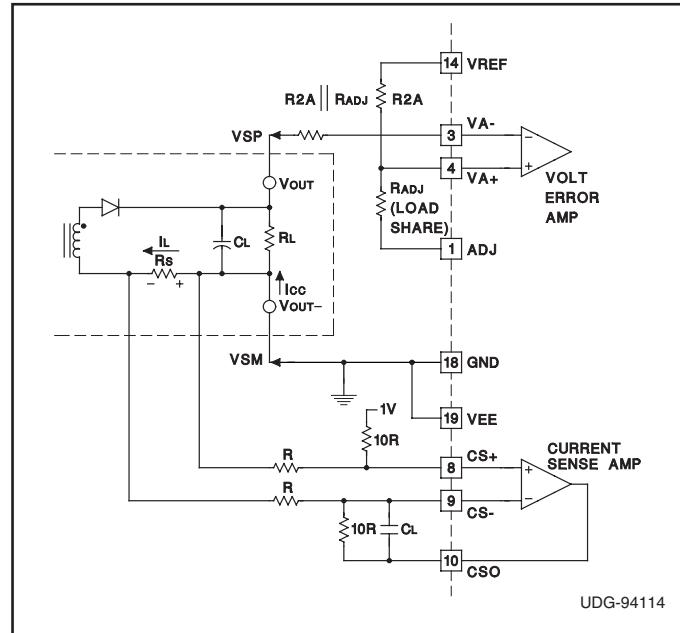

Figure 6. Voltage and Current Sense VEE Tied to GND
**Grounds, Voltage Sensing and Current Sensing:** The voltage is sensed directly at the load. Proper load sharing requires the same sensed voltage for each power supply connected in parallel. Referring to Figure 6, the positive sense voltage (VSP) connects to the voltage error amplifier inverting terminal (VA-), the return lead for the on-chip reference is used as the negative sense (VSM). The current is sensed across the shunt resistor,  $R_S$ .
Figure 6 shows one recommended voltage and current sensing scheme when VEE is connected to GND. The signal ground is the negative sense point for the output voltage and the positive sense point for the output current. The voltage offset on the current sense amplifier is not needed if VEE is separated from GND. VEE is the negative supply for the current sense amplifier. When it is separated from GND, it extends the current sense amplifier's common mode input voltage range to include VEE which is approximately  $-0.7V$  below ground. The resistor  $R_{ADJ}$  is used for load sharing. The unit which is the master will force  $V_{ADJ}$  to 1.0V. Therefore, the regulated voltage being sensed is actually: